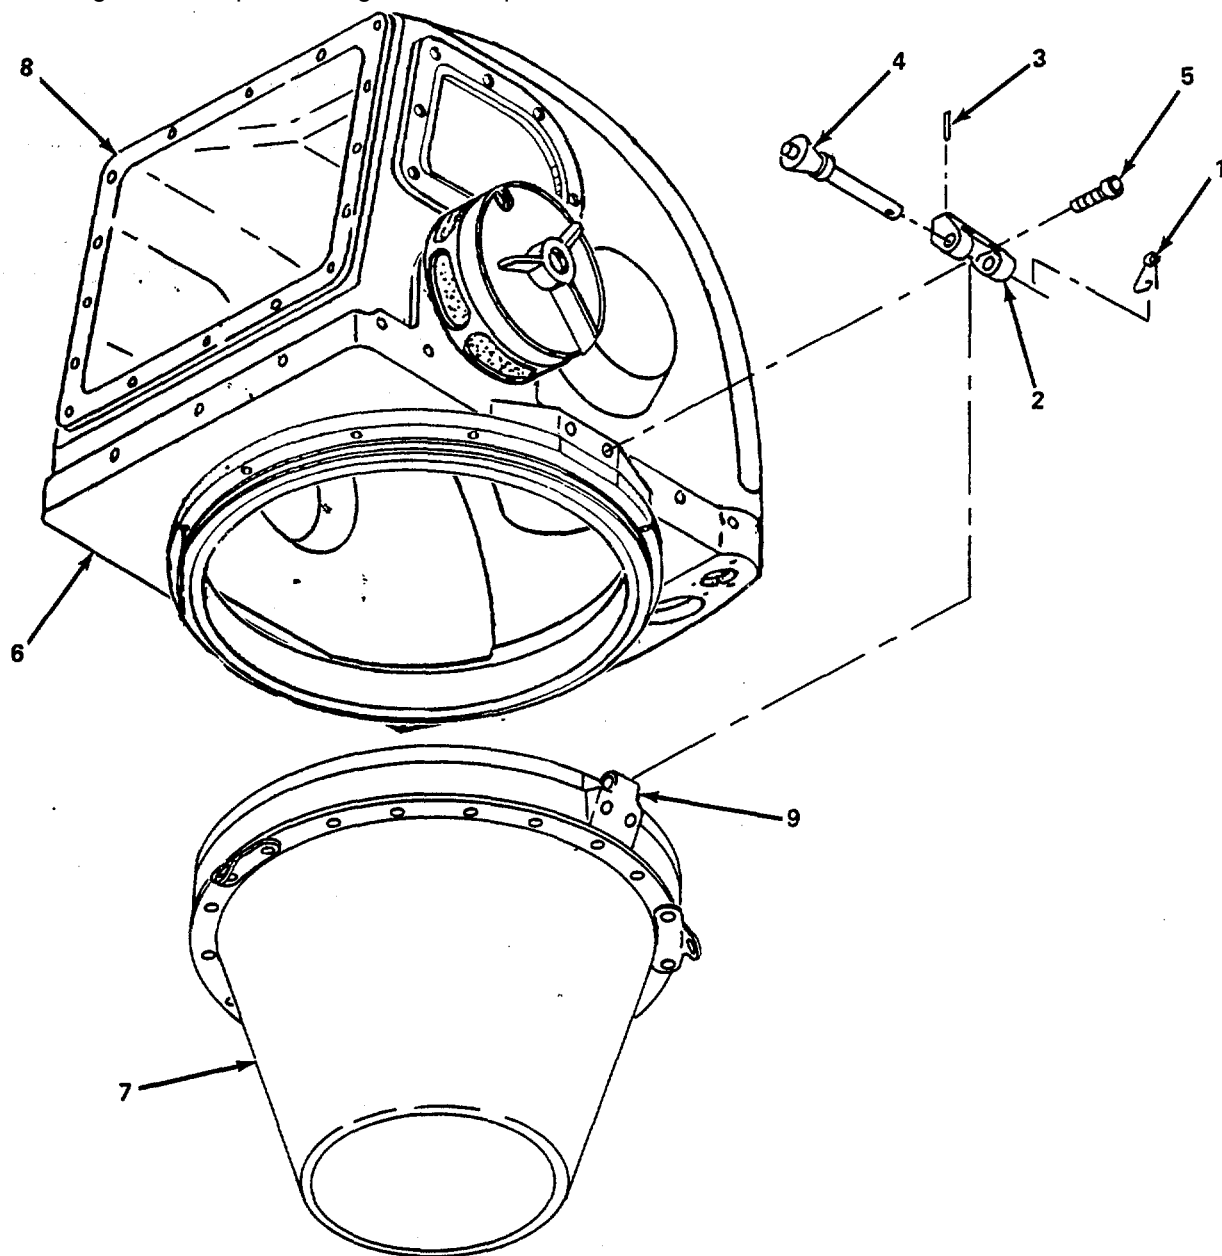

Figure 4-20. Helmet Lug, Replace.
a. Replace. (figure 4-20)
- (1) Remove safety pin (1) from helmet lug (2).
- (2) Remove roll pin (3) from helmet lug (2) and remove quick-release pin (4).
- (3) Remove two screws (5) and helmet lug (2) from helmet base (6).
- (4) Apply film of lubricant on helmet lug surface that contact the base.
- (5) Apply light film of sealant (RTV) to screws (5).
- (6) Install helmet lug (2) on helmet base (6) and secure with two screws (5) finger tight only.
- (7) Install lower breech ring assembly (7) to the helmet (8) with the helmet (2) and lower lugs (9) engaged.
- (8) Insert quick-release pins (4) and position helmet lug to center the lower lugs (9) and permit free operation of lock pins (4).
- (9) Torque helmet lug mounting screws to 8-10 lb-in. (0.9-1.1 Nm).